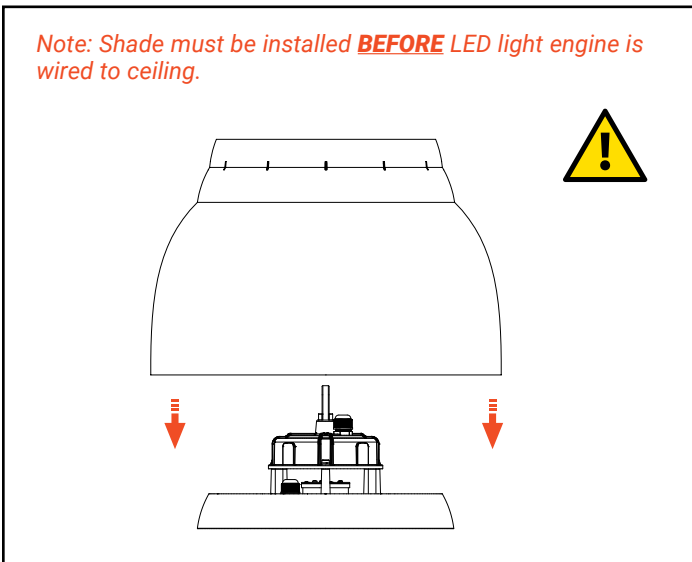

Figure 3.
3. Slip 3D printed shade over LED Housing. (Figure 3.)
4. Hang fixture to structure (by others). (Figure 3.)